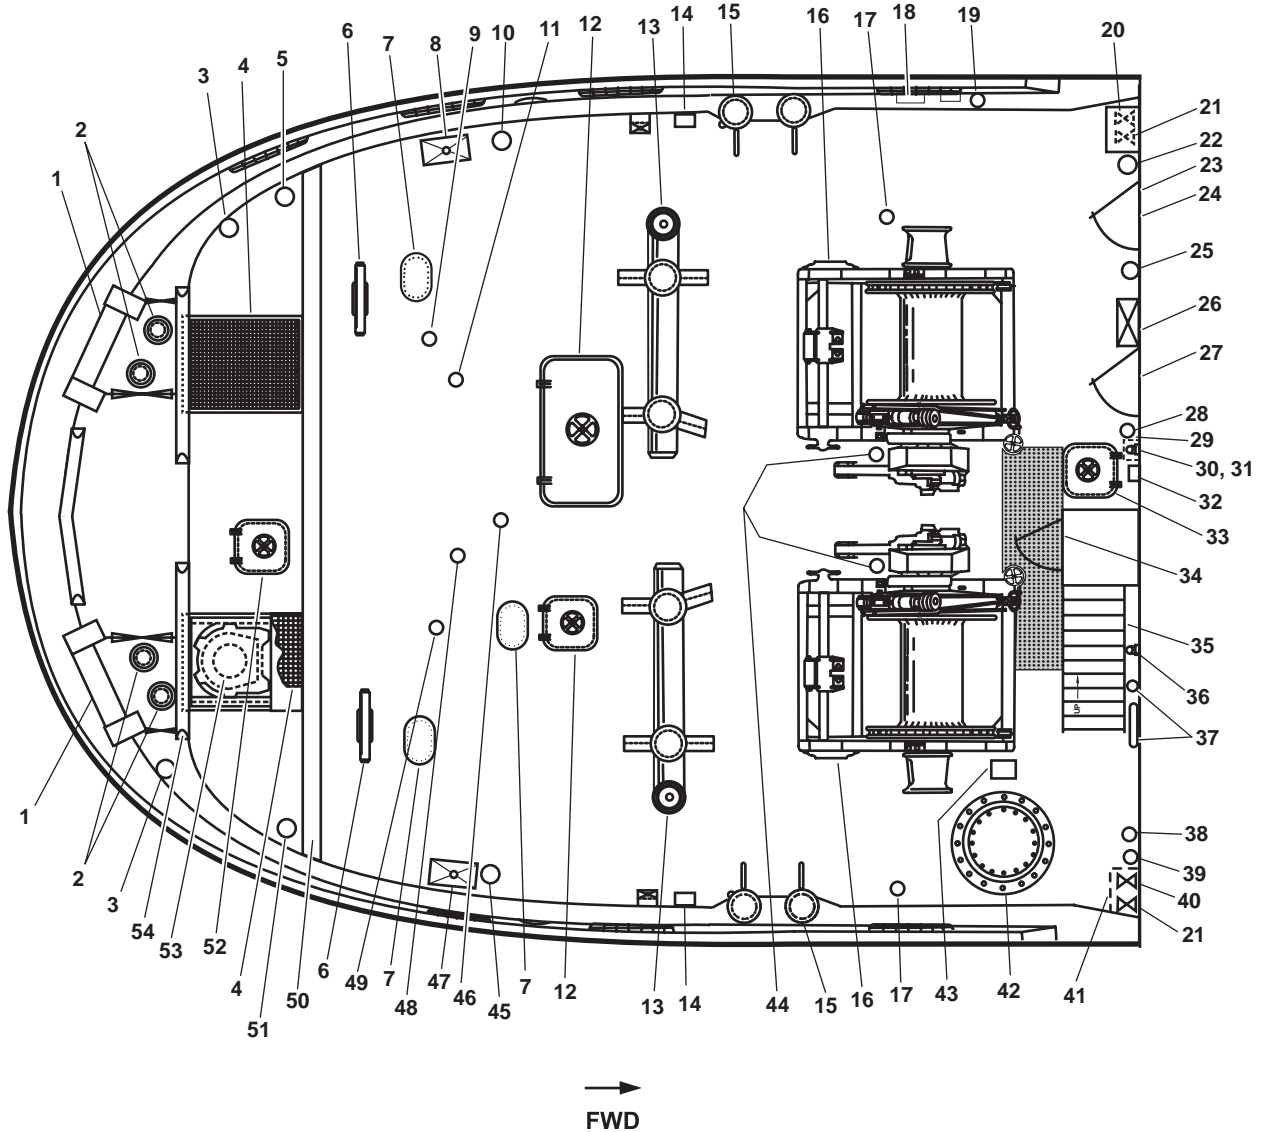

Figure 1. Main Deck Exterior
1. Tow roller (figure 1, item 1). Tow rollers reduce friction on the towing hawsers.
2. Retractable tow pins (figure 1, item 2). Pins guide the lines and hawsers to a desired location.
3. Steering gear compartment vent (figure 1, item 3). The steering gear compartment vents the steering gear compartment to weather.
4. Polyfiber grating (figure 1, item 4). The polyfiber grating protects the rudder motors from damage by the towing hawser.
5. Fuel oil tank 4P vent and spill container (figure 1, item 5). The fuel oil tank 4P vent vents fuel oil tank 4P to weather. The spill container contains spillage from accidental overfilling.
6. Cleat (figure 1, item 6). The cleat is used to secure lines. It maintains lateral control of the towing machine wire rope by providing an attachment point for the hawsing strap.
7. Flush manhole (figure 1, item 7). The flush manhole provides access to the void and the fuel oil tanks.
8. Tow gear locker natural air vent (figure 1, item 8). This vent provides fresh air ventilation to the port side of the tow gear locker.
9. Fuel oil tank 4P cutoff valve (figure 1, item 9). This valve provides remote cutoff for fuel oil tank 4 port.
10. Ballast tank 2P vent (figure 1, item 10). This vent provides ventilation for the port aft ballast tank.
11. Fuel oil tank 4P sounding tube (figure 1, item 11). This sounding tube permits measurement of the fuel level in fuel oil tank 4 port.
12. Hatch (figure 1, item 12). The hatch provides access to towing gear locker.
13. H-bitt (figure 1, item 13). The H-bitt fixture is used to secure the towing hawser.
14. Tow pin control (figure 1, item 14). The tow pin control raises and lowers the tow pins.
15. Double bitt (figure 1, item 15). The double bitt is used to secure (moor) the Large Tug (LT). The double bitt is also used for ship handling.